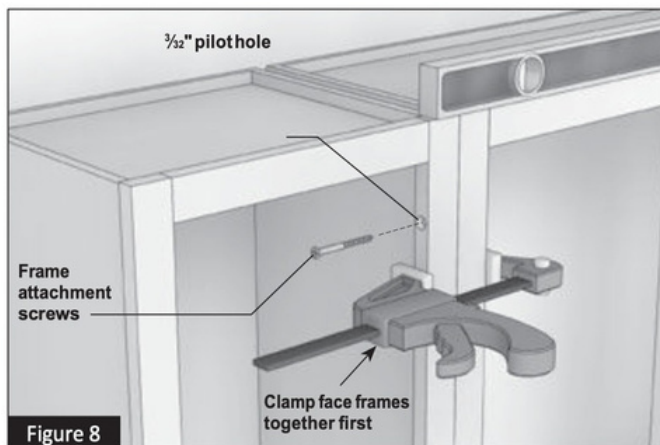

Figure 8
- 2.5** In order to attach two cabinets together, you will need to clamp them together first. Then, drill a $\frac{3}{32}$ " pilot hole in three places along the hinge side of the frame. Finally, drive in the #8 x $2\frac{1}{2}$ " frame attachment (trim head) screws to join the two cabinets. (Figure 8)